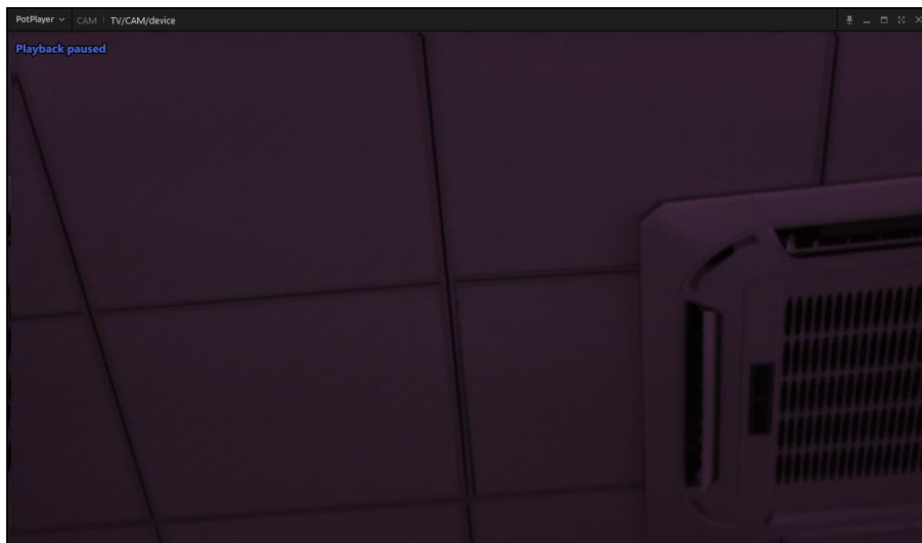

Figure 6.10. Video Output on PotPlayer
4. The video of the camera sensor can be seen on the PotPlayer screen, as shown in Figure 6.10.